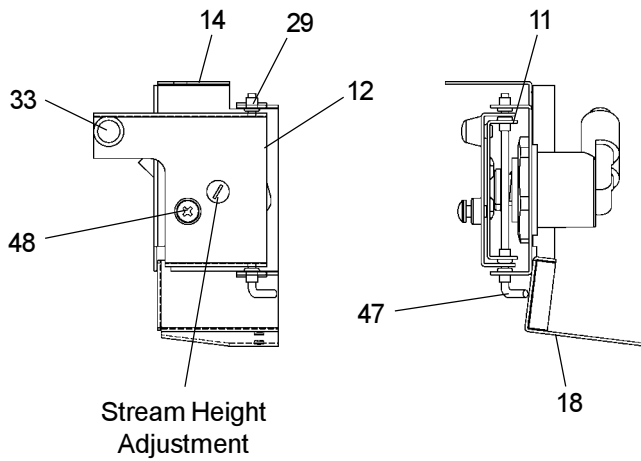
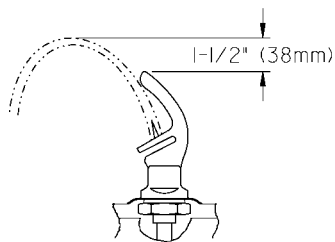

FIG. 10
FIG. 12
15. Check stream height from bubbler. Adjust stream height by adjusting the screw on the regulator (item 40). Clockwise adjustment will raise stream height and counter-clockwise will lower stream height. If needed, adjust push arm/regulator clearance by turning phillips head screw on regulator bracket assy., **Pushbar units only** (item 48, fig. 10). For best adjustment a stream height of 1-1/2" (38mm) above the projector is recommended. (See fig. 12).
16. Mount lower panel. Loosen the (2) #10-24 x 5/8" (16mm) screws at frame bottom lip. Slide upper tongue of lower panel under lower edge of already installed upper panel. Tighten previously loosened screws securely.